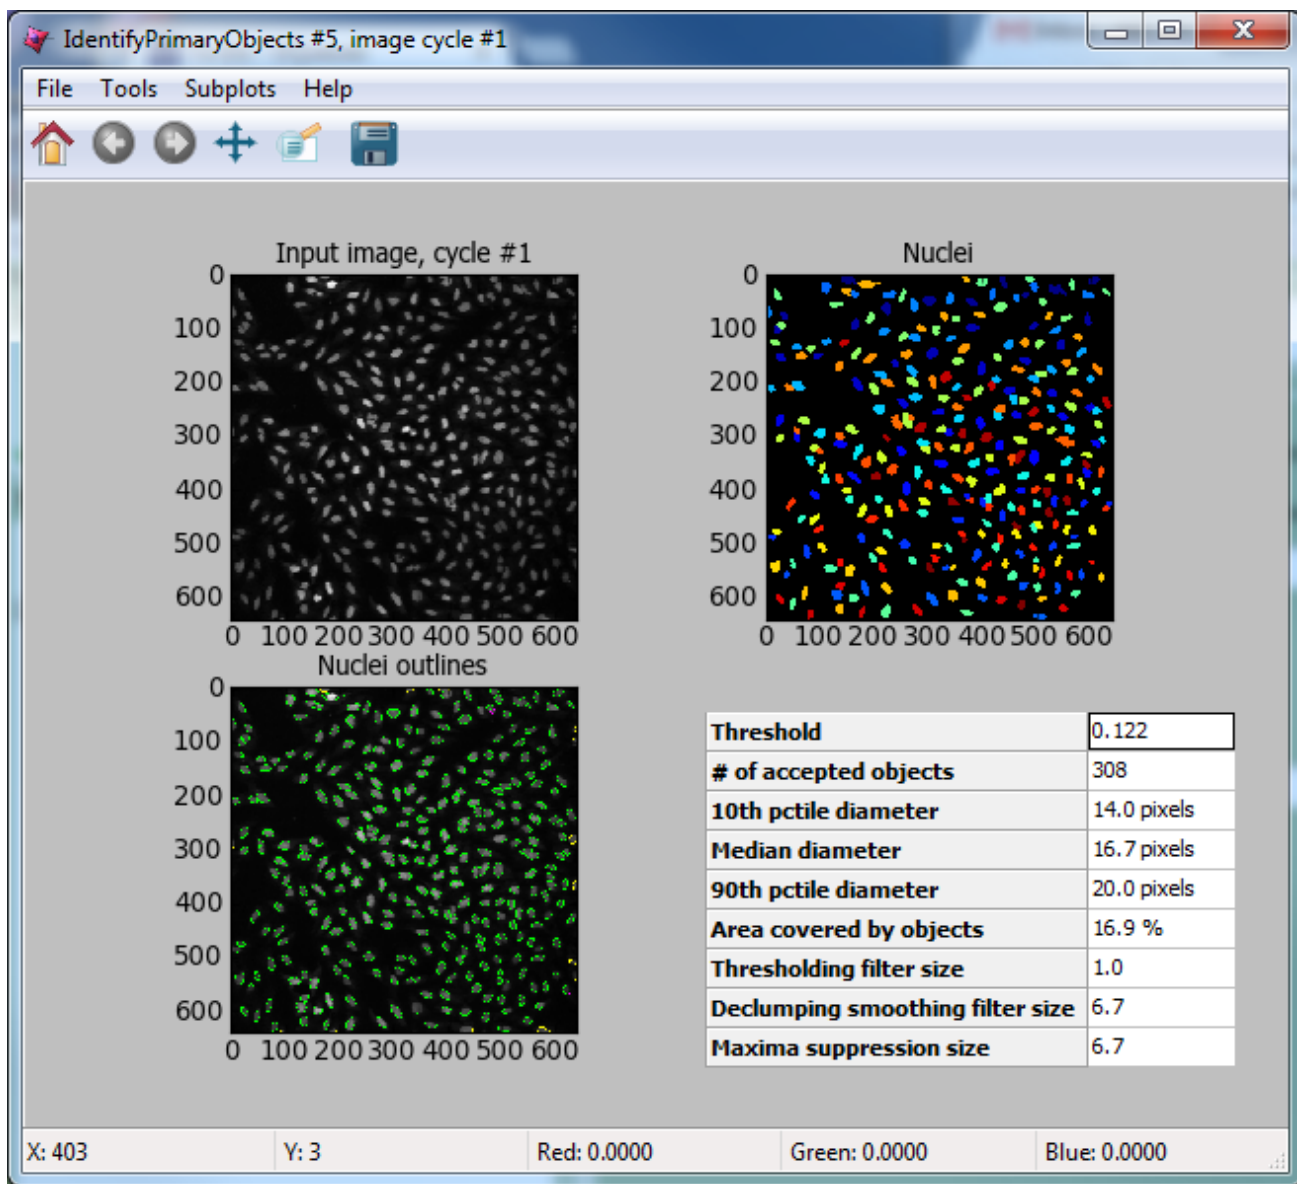

Figure 2: Example module display window for *IdentifyPrimaryObjects*.
- Click on the “Step” button below the pipeline panel, in order to progress through each module in the pipeline, one by one. Upon stepping through the *IdentifyPrimaryObjects* module, a module display window will appear similar to that shown in Figure 2 below.
The results of *IdentifyPrimaryObjects* are displayed in four panels in the display window, as shown in Fig. 2: